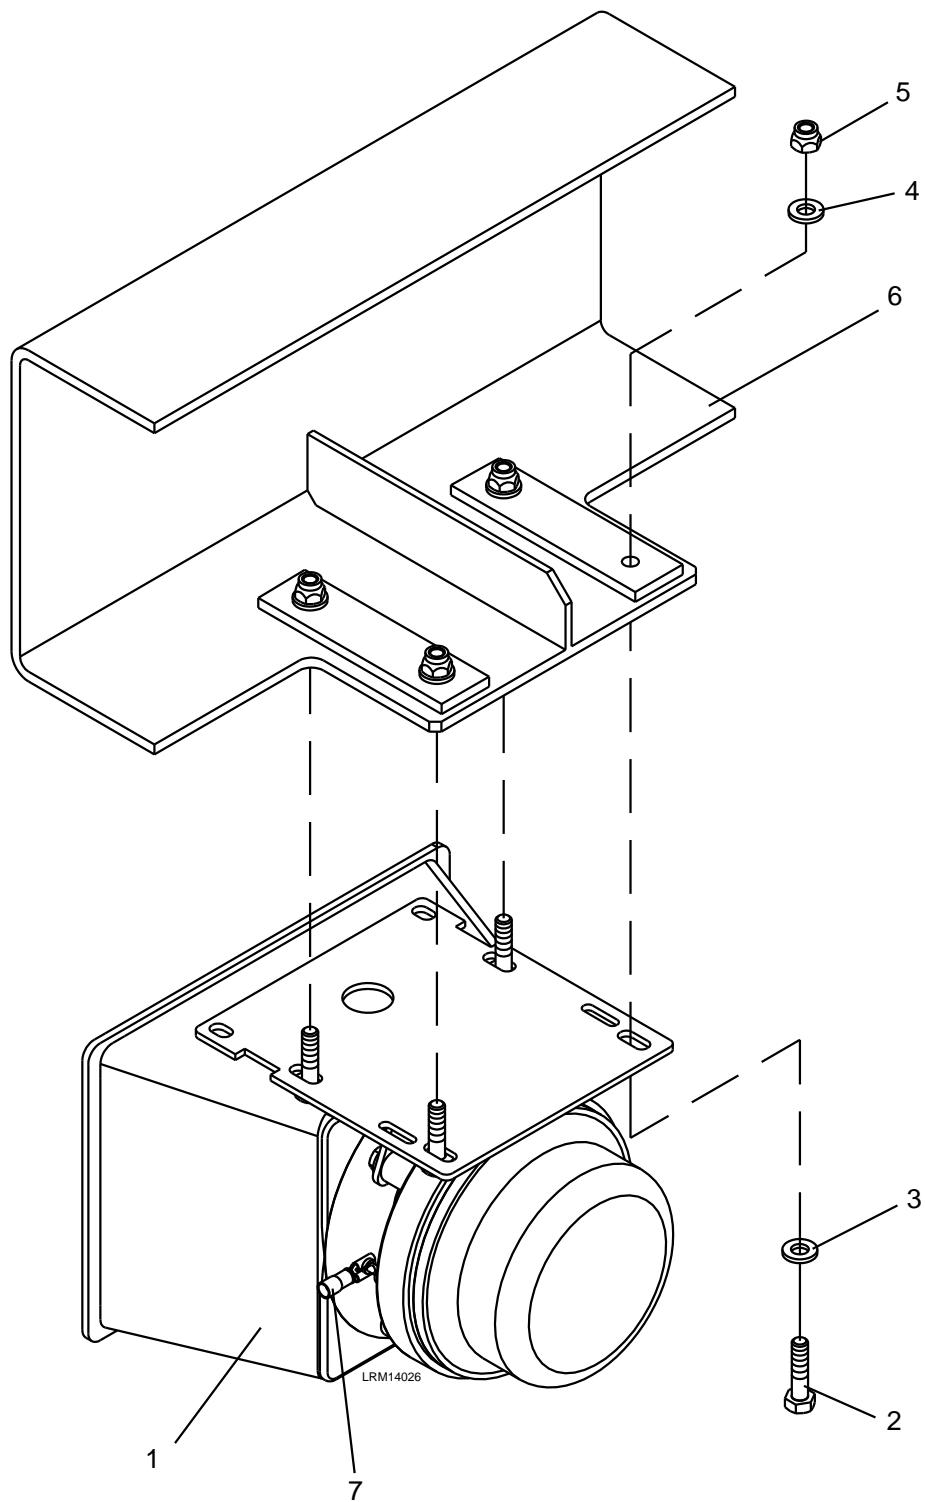

Figure 8-27: Horn / Gong Speaker
1. Disconnect the 1/4" Faston electrical connections (7) to the Horn / Gong Speaker (1).
2. Remove the four M6 ESNA nuts (5) and M6 plain washers (4), M6 x 25 bolts (2), and M6 plain washers (3). See Figure 8-27.
3. Carefully remove the Horn / Gong Speaker (1) from the mounting bracket (6).